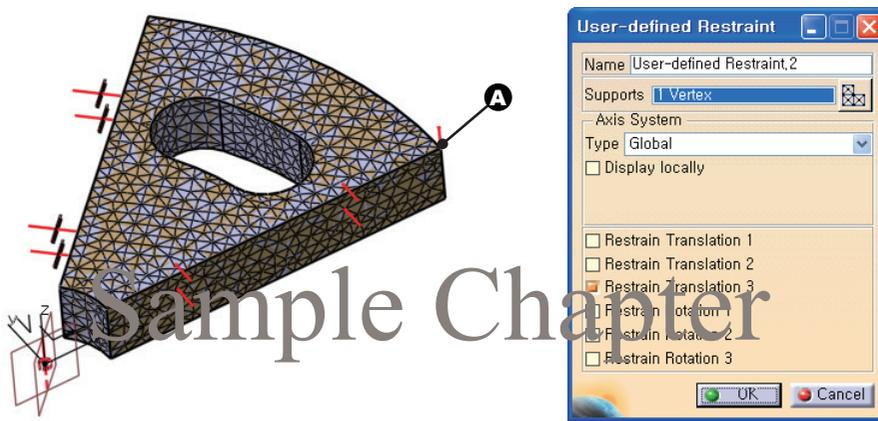

Fig 8-18 Restraining Z Translation
2. Select the vertex **A** as shown in Fig 8-18.
3. Restrain the Z Translation with regard to the Global coordinate system as shown in Fig 8-18.